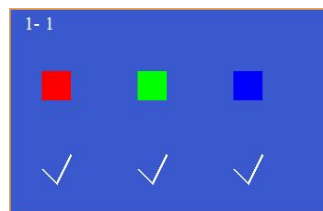

Fig.4-41 Shooting and analysis complete
- Once the analysis of the components is completed, a white check mark will appear below the corresponding color. When a partition has been captured and analyzed, its background color will change to dark blue (see Figure 4-41).